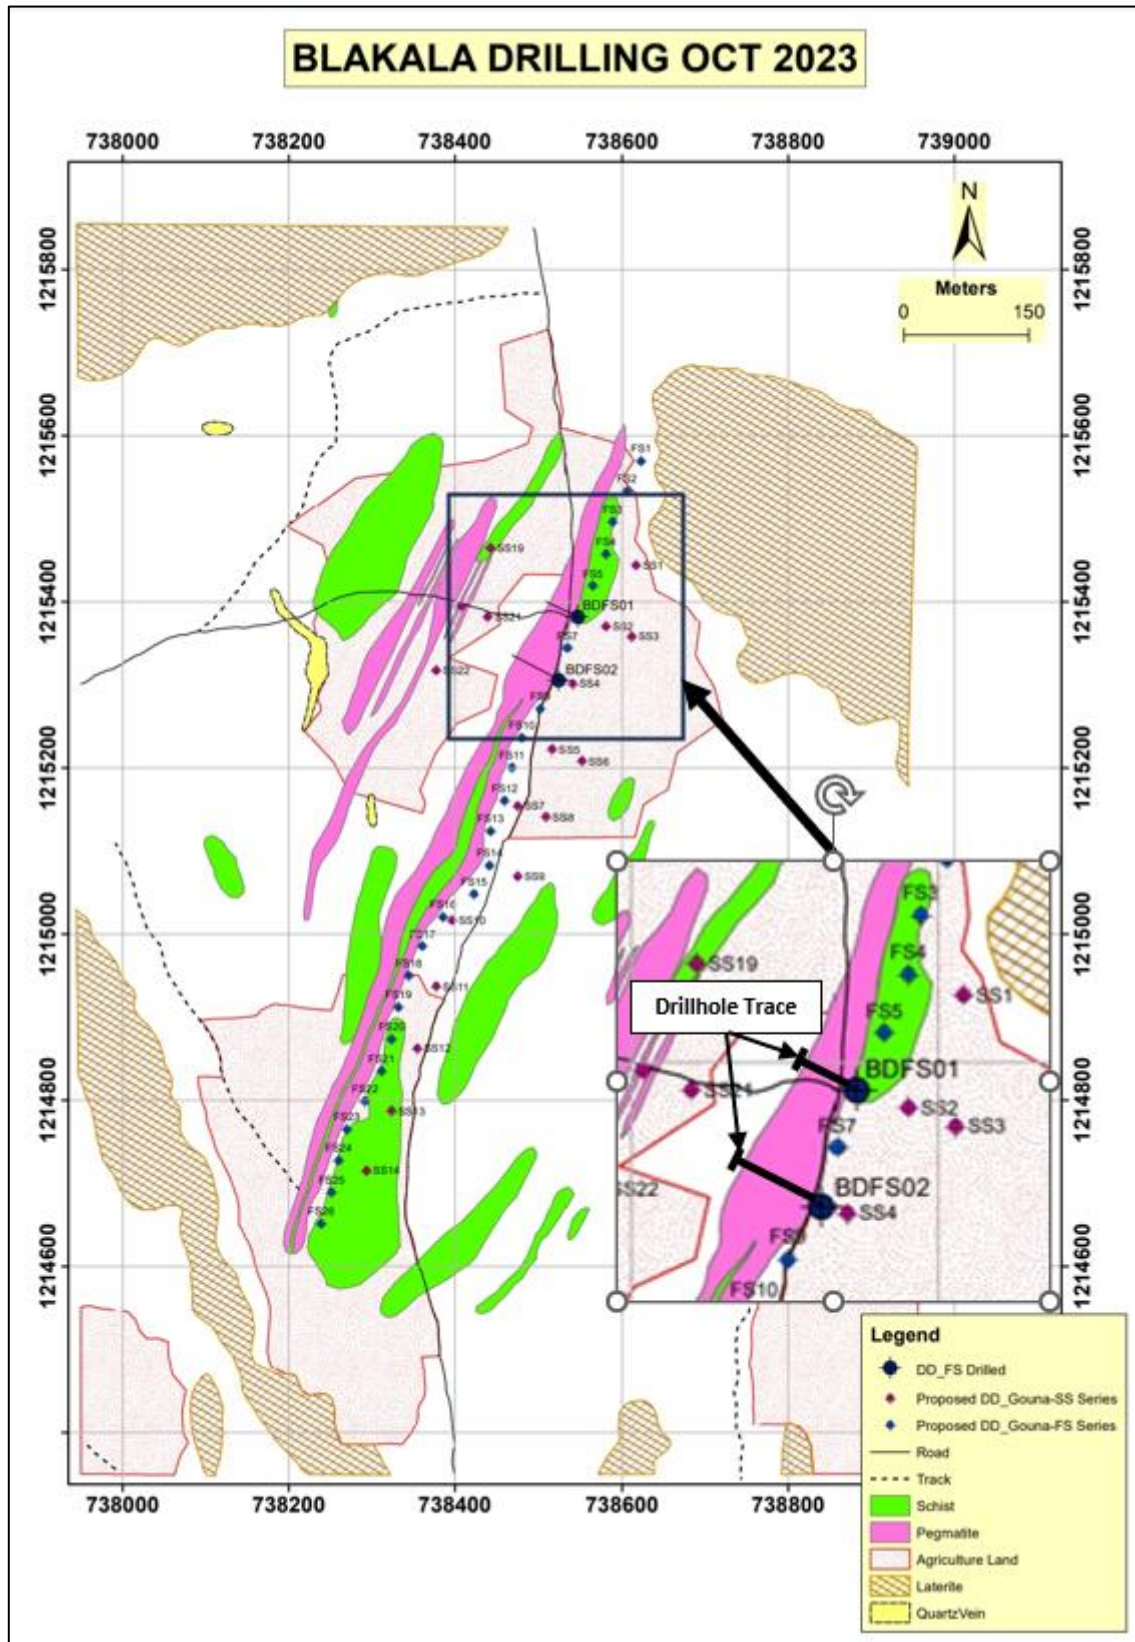
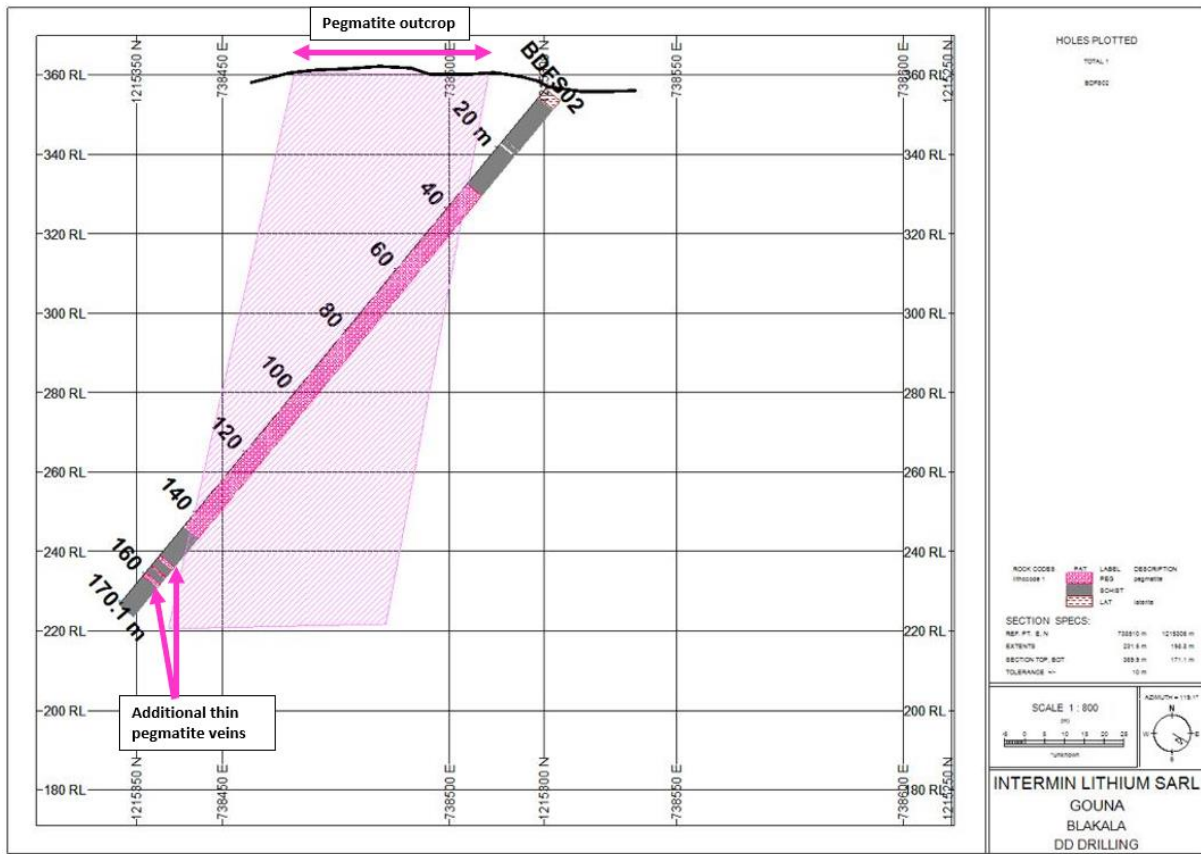
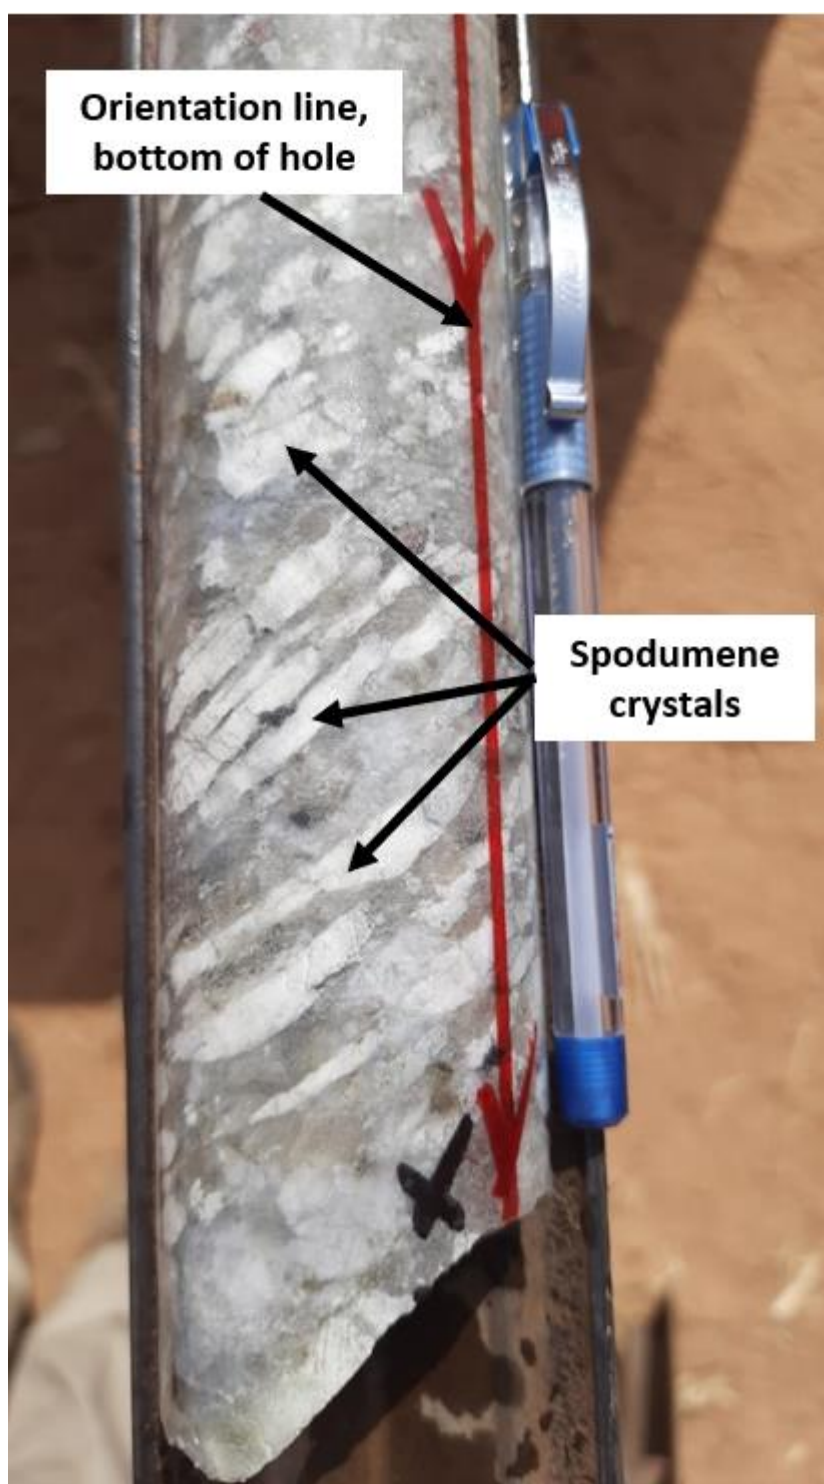
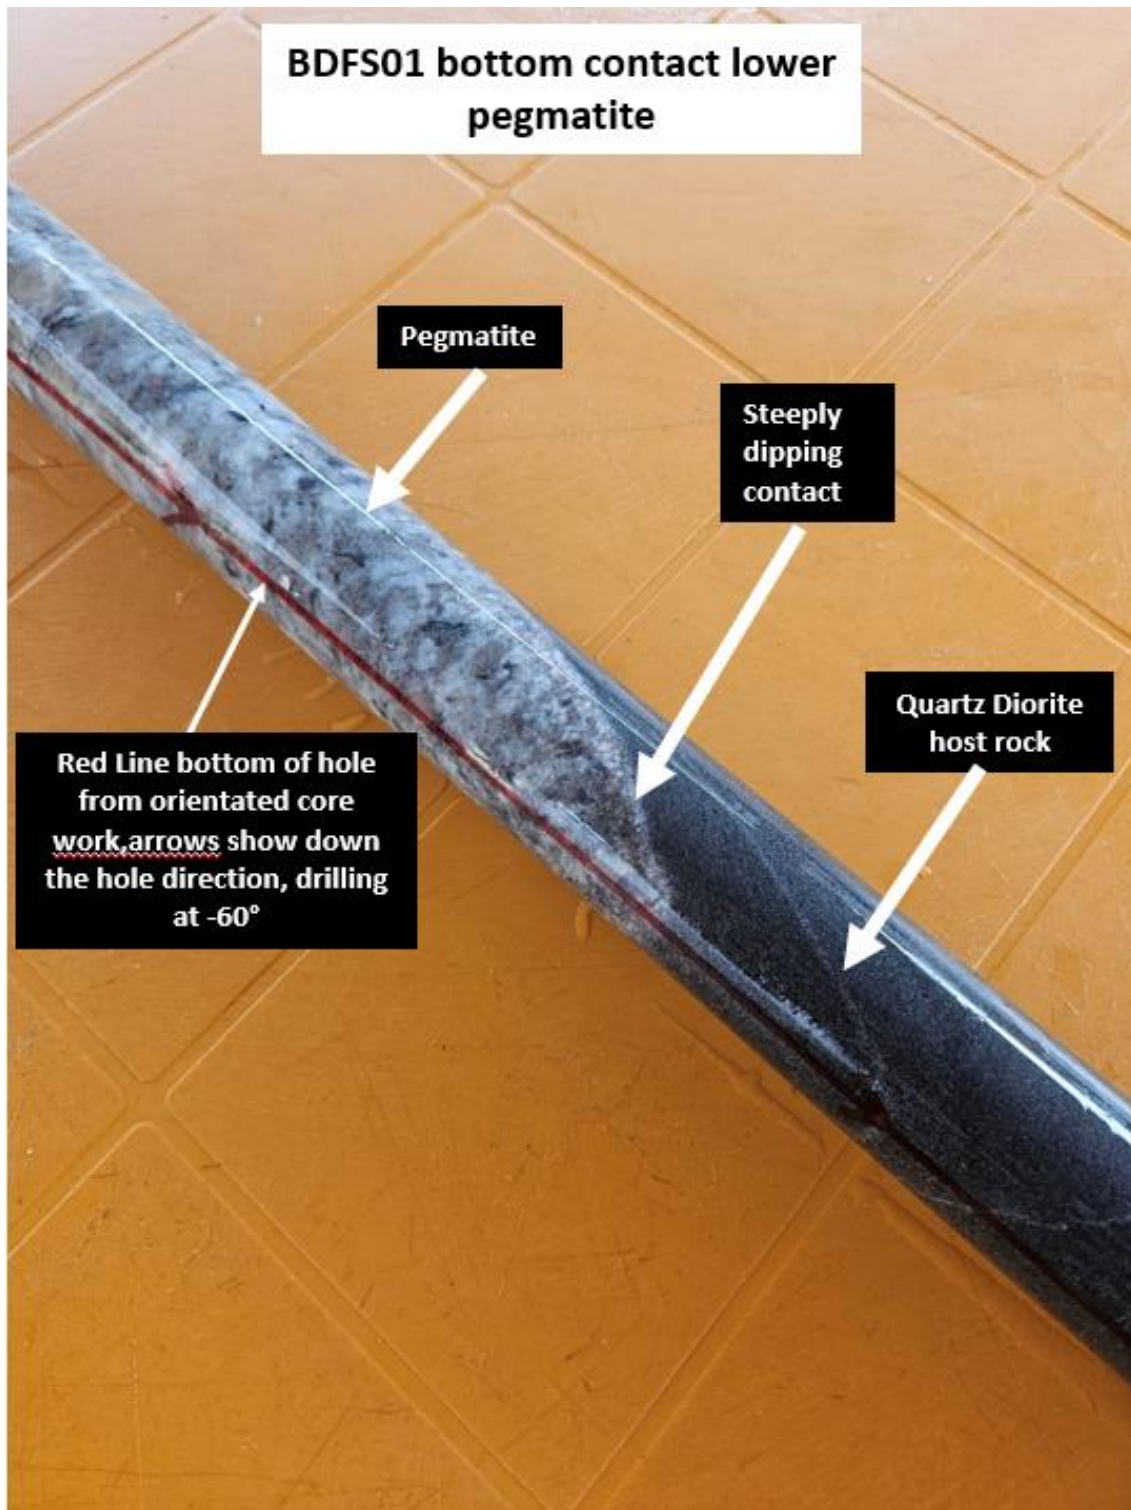

Figure 1: Locality of two completed diamond drillholes at the Blakala prospect, as well as all the mapped pegmatites on the licence.
Figure 2: Cross section showing the pegmatite intersection of BDFS02
Figure 3: Spodumene in drillhole BDFS02
Figure 4: Bottom contact of pegmatite in BDFS01 showing the steeply dipping contact
First Lithium Ltd (“FL1” or “the Company”) is pleased to announce the successful completion of the first two (2) diamond drillholes at its priority 1 lithium prospect, Blakala, located on the Gouna Permit in Mali (Figure 1). The drilling program is part of the Company’s first exploration program to delineate the extent of known spodumene bearing pegmatites with substantive surface expression with approximately 6,000m of diamond drilling to depths of up to 300m planned for the program (ASX:FL1 26/10/23).
Drilling of the 6,000m drilling program started in the north of the Blakala prospect, with a line of holes drilling less than 20m from the main Blakala pegmatite body (Figure 1). The first two (2) diamond drillholes, holes BDFS01 and BDFS02, have been completed with end of hole depths of 80.70m and 172.00m respectively (Table 1). Significant pegmatite intersections are found in both drillholes, 4.58m and 5.05m from 2 pegmatites in BDFS01 respectively; and 112.80m from 1 thick pegmatite in BDFS02 (Figure 2)(Table 1). Additional, thinner pegmatite intersections are found in both holes (Table 1). Previous pegmatite outcrop mapping and trenching verifies the thicknesses from the drilling, with mapping of the main pegmatite showing thicknesses between 10m to 45m (Figure 1). The main pegmatites have been found to be very well mineralised throughout, with spodumene crystals up to 10 cm in length (Figure 3). All the pegmatite intersections showed the top and bottom contacts of the pegmatites to be very steeply dipping, mostly close to vertical (Figure 4). Double shift drilling is taking place, with a daily drilling average of ~50m per day. Due to the positive pegmatite intersections from the drilling, as well as the clear mineralisation, an additional diamond drill rig will be mobilized to Blakala within the next two (2) weeks. A continuous cycle of samples will be sent to a certified Analytical laboratory during the drilling and continuing trenching programs, with assay results expected every 3-4 weeks.